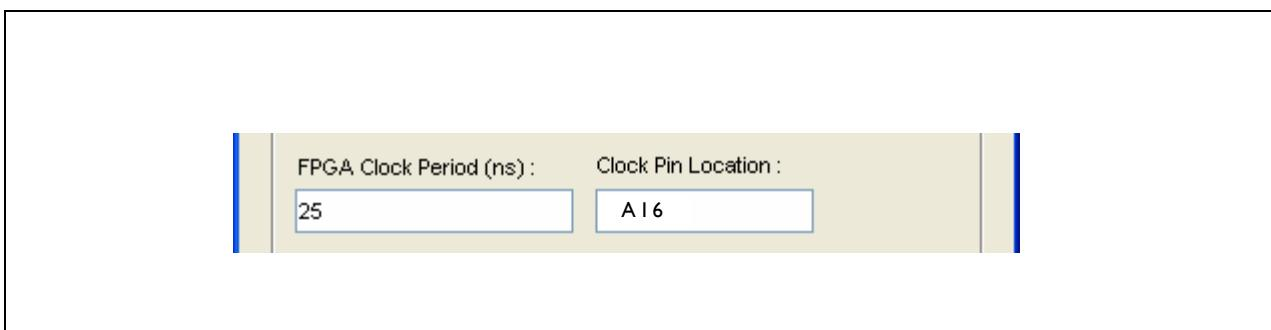

Figure 139: Clock Pin Location
- Clock Pin: Double click on the System Generator block, set the clock period to 25ns and the clock pin location to A16 as shown in Figure 139 on page 213.